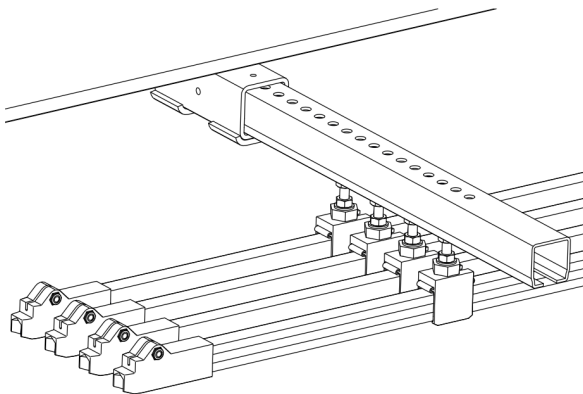

Fig. 107: All end caps are mounted
- Mount each end cap in the same way (see Fig. 107).